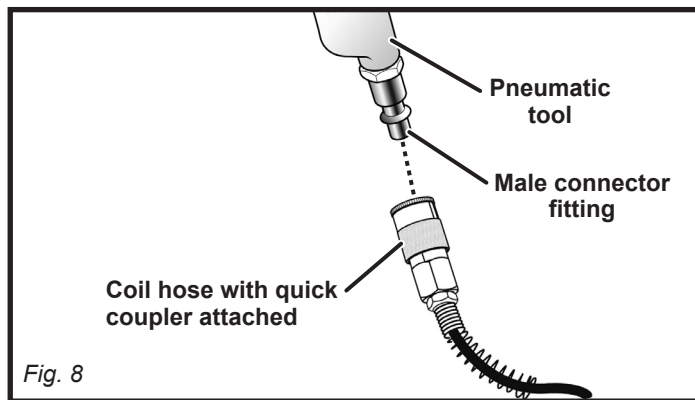

Fig. 8
- Connect the air powered tools to the air hose by inserting the male quick-connect plug to the quick-coupler at the end of the hose (see fig. 8).